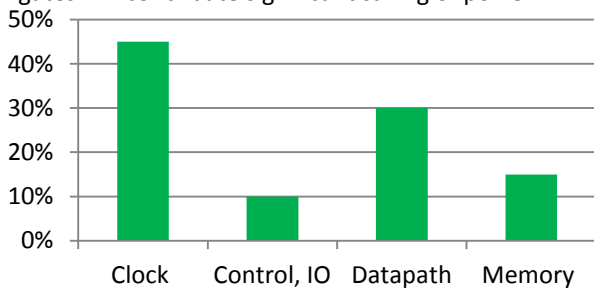

Figure 1: Power consumption breakdown in microcomputers
I. Introduction: The demand and popularity of portable electronics is driving designers to strive for smaller silicon area, higher speeds, longer battery life, and more reliability. Power is one of the premium resources a designer tries to save when designing a system. Figure 1 shows the power consumption breakdown in a modern day high performance microcomputers [1]. The datapath consumes roughly 30% of the total power of the system. XOR gates are the extensively used component in datapaths and, therefore, careful design and analysis of the XOR gates will contribute significant saving of power.